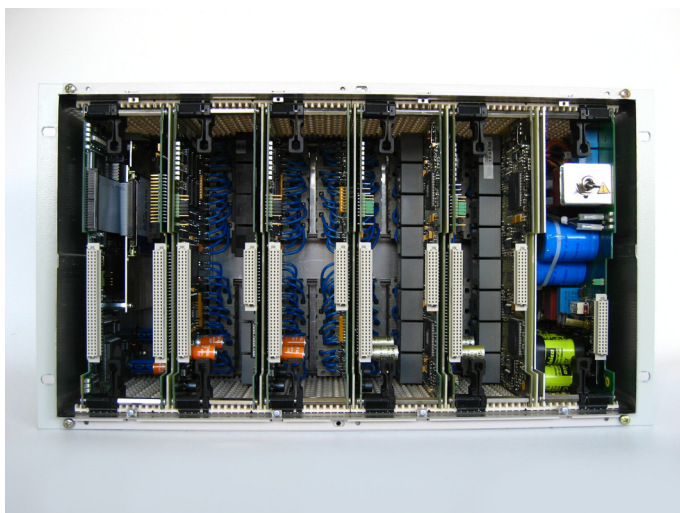

Figure 1-5 Internal view of device without bus board
- ❑ Remove the bus board from the modules and set it aside (see Figure 1-5).